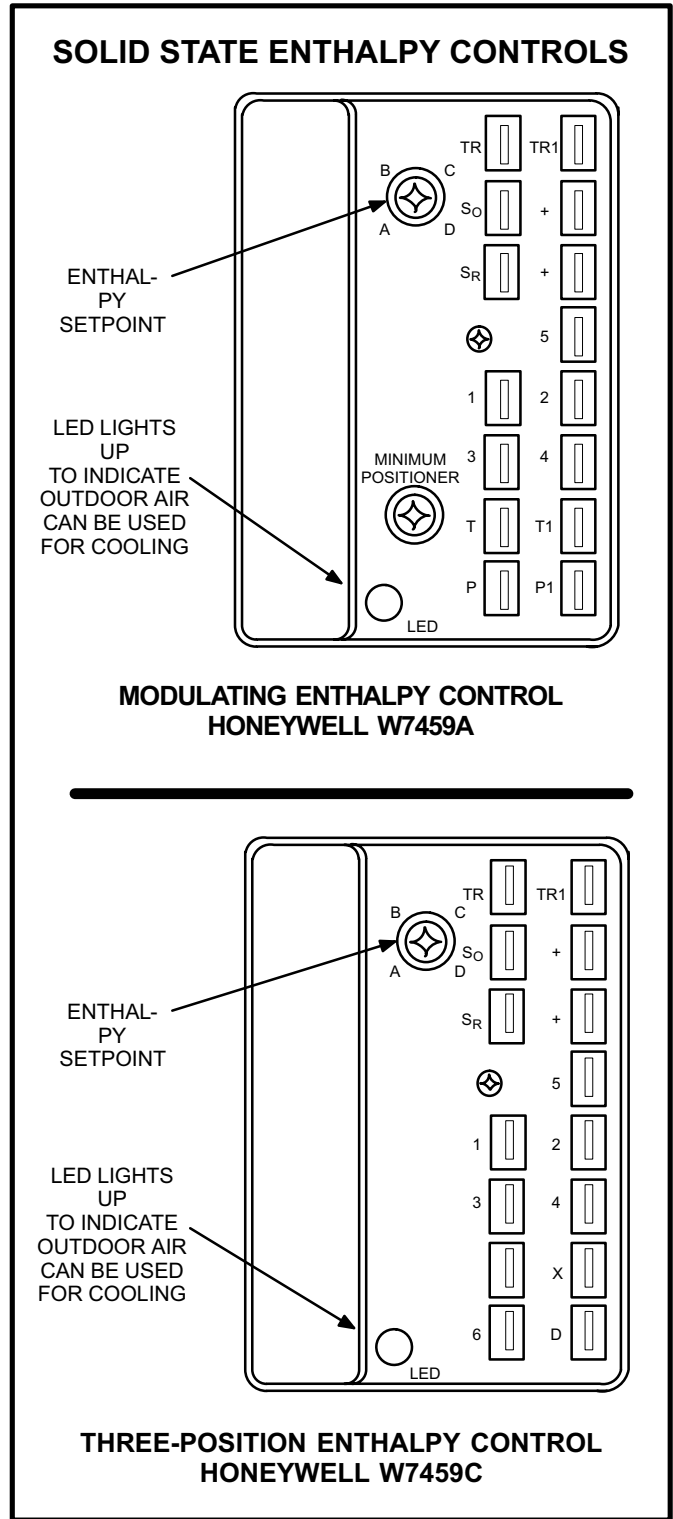
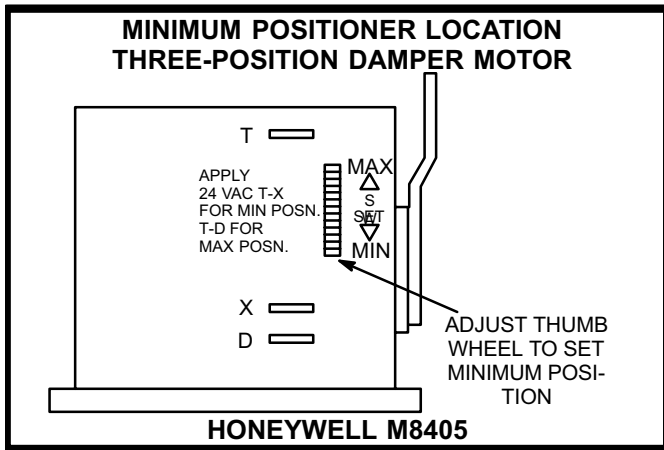

FIGURE 1
FIGURE 2
The key to economizer operation is the enthalpy control (figure 1.) The enthalpy control senses the total heat content of the outside air (temperature plus humidity) and uses that information to control the amount of outside air brought into the system. When the enthalpy of the outside air drops below the control setpoint and a cooling demand is present, the control actuates a motor which in turn adjusts the outdoor dampers to meet the cooling demands of the building. With the outdoor air dampers open, the indoor blower draws in outdoor air for cooling and the first stage compressors are disabled. When the heat content rises above the control setpoint, the control de-activates and the dampers close to the preset minimum (not closed) position. The first stage compressors are switched to handle all first stage cooling.
Each economizer has a minimum positioner switch (potentiometer) which allows the outdoor dampers to be adjusted to a preset minimum position. This allows a preset amount of air exchange at all times during unit operation. When unit operation stops, the dampers drive fully closed. The potentiometer is located on the enthalpy control face (modulating economizer - figure 1, top) or on the damper motor (three-position economizer - figure 2.)
Two types of adjustment may be made to the economizer. The first is the control setpoint. The setpoint determines the temperature and humidity conditions at which the outdoor air dampers will open and close. A switch is provided on the face of the enthalpy control (figure 1) for adjusting the setpoint. The recommended setpoint is "A". If the economizer is allowing air which is too warm or too humid into the system, the control may be changed to a lower setpoint (B,C or D.) Refer to enthalpy chart figure 5.
- 2- Locate enthalpy control A6 (see figure 1).